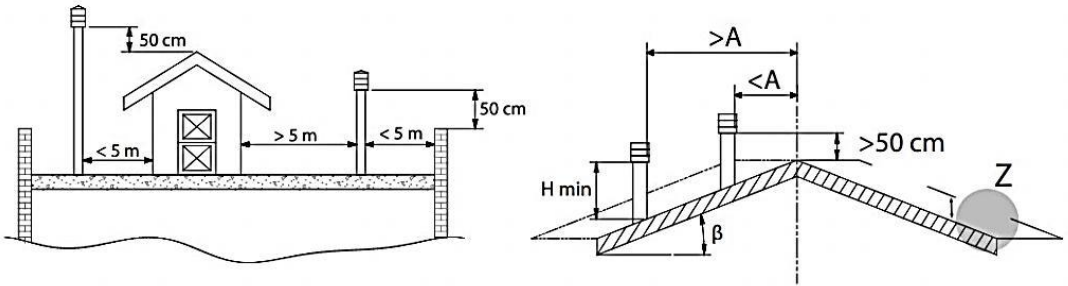

Figure 2
- installed to **enable proper dispersion and dilution of combustion products outside the reflux zone** (backflow) because the counter pressure occurs here. Therefore, it is necessary to adhere to limitations listed in *Figure 2*,
The chimney must be **at least 0,5 meters above the roof ridge** (see *Figure 2*).